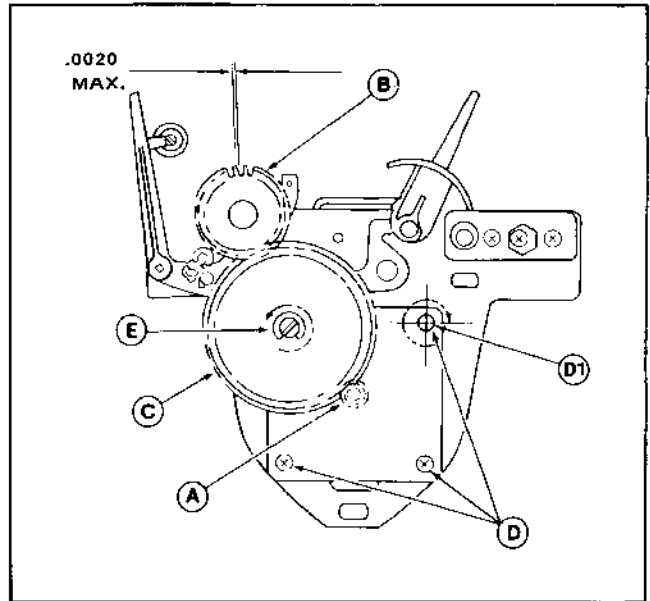

Figure 3-20. Paper Feed (Platen) Drive Adjustments
3.4.1.2.3 Paper Feed (Platen) Drive. Refer to Figure 3-20. With paper feed motor drive gear (A) locked, platen drive gear (B) must have a .002 in. (.05 mm) maximum play [total play includes idler gear (C)].